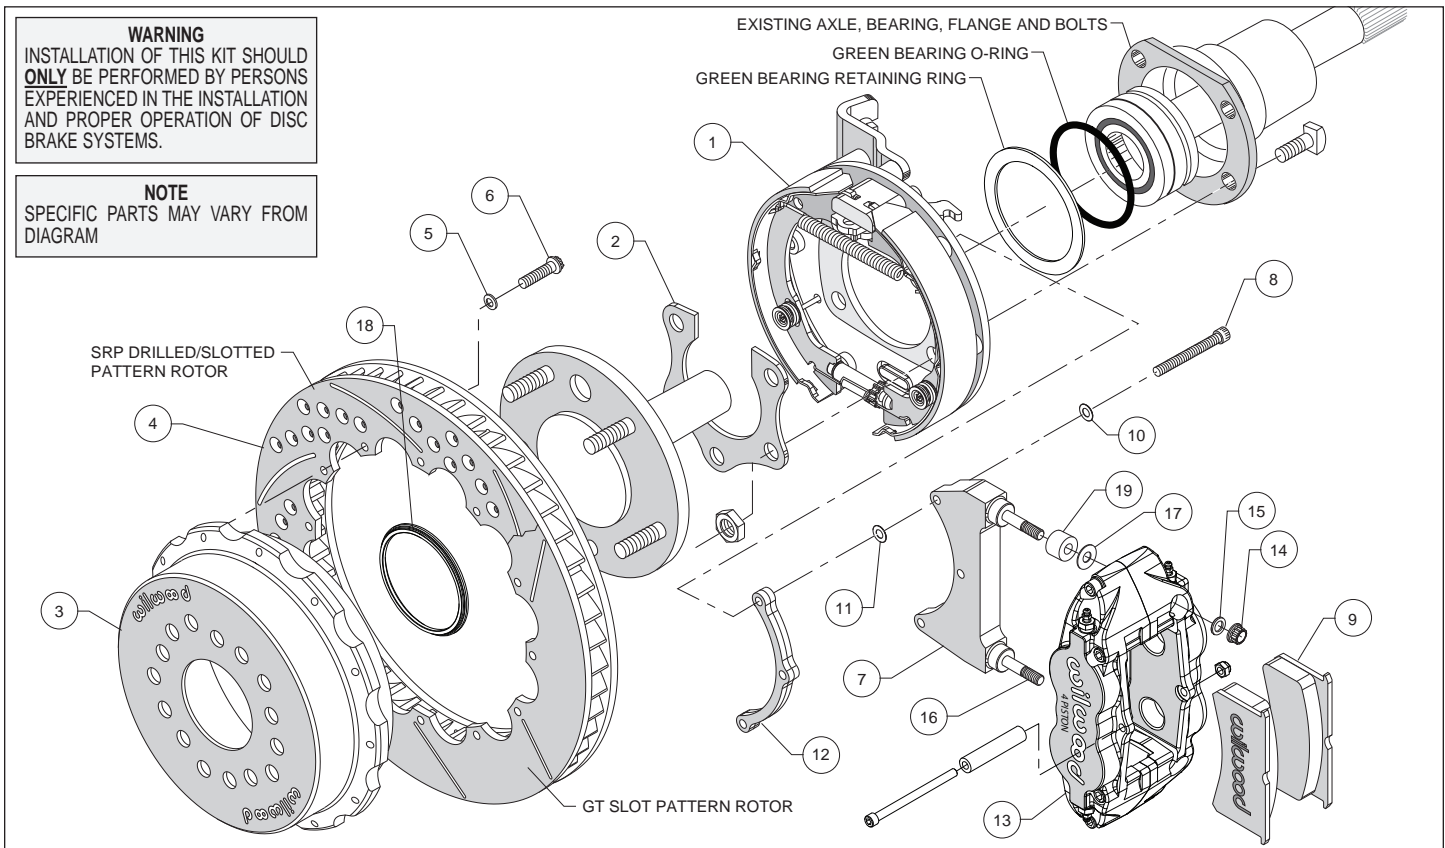
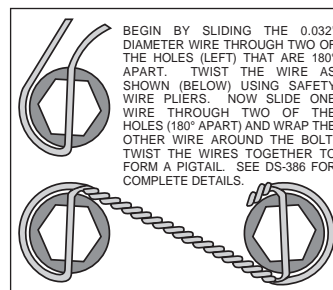

Figure 3. Typical Installation Configuration
Figure 7. Safety Wire Diagram
Assembly Instructions (numbers in parenthesis refer to the parts list, and Figure 3 on the preceding pages): **CAUTION:** All mounting bolts must fully engage insert nuts. Be sure to check that all bolts are either flush or protruding through flanged side of insert nut after shimming.
- Temporarily remove the retaining ring and o-ring from the bearing. Use care so as not to damage those components. Orient the bracket assembly (1) as shown in Figure 3 and Photo 1 and slide it onto the axle and past the bearing. Reinstall the retaining ring and o-ring onto the bearing, again using care. Insert the axle and bracket into the axle housing. Ensure that the bracket assembly backing plate fits flush against the axle housing flange. **NOTE:** The bearing retaining ring should be sandwiched between the axle housing flange and the new bracket assembly.
- Install the bearing retainer (2) with the opening pointing upward and the bearing relief step facing inward (toward the bearing), as shown in Figures 3 and 6, and Photo 2. Secure retainer and bracket assembly to the axle housing flange using the Original Equipment Manufacturer (OEM) bolts and nuts, Figure 3. Apply red *Loctite*® 271 to the OEM bolt threads and torque to OEM specifications.
- NOTE:** Please reference the caution statement at the beginning of the assembly instructions. The caliper mounting bracket (7) should initially be installed with clean, dry threads on the mounting bolts. Orient the bracket as shown in Figure 3, and install using bolts (8) and flat washers (10). Initially place one .015" shim washer (11) on each bolt between the bracket (7) and spacer (12), Figure 3. Temporarily tighten the mounting bolts. **NOTE:** End of bolt should not exceed inside face of insert. The bracket must tighten squarely against the back side of the bracket kit assembly (1). Inspect for interference from casting irregularities, machining ridges, burrs, etc. Later, after the caliper alignment has been checked, the mount bolts will be secured using red *Loctite*®.
- Orient the rotor (4) and the hat (3) as shown in Figure 3 and Photo 3. Attach rotor to hat using bolts (6) and washers (5). Using an alternating sequence, apply red *Loctite*® 271 to the threads, and torque bolts to 155 **in-lb**. For an added measure of security, the bolts may be safety wired using standard 0.032 inch diameter stainless steel safety wire as shown in Figure 7. Please refer to Wilwood's data sheet DS-386 (available at www.wilwood.com/Pdf/DataSheets/ds386.pdf) for complete safety wire installation instructions.
- Slide the rotor registration adapter (18) onto the axle register on the axle flange with the smaller O.D. facing toward the rotor/hat (4 and 3), Photo 4. Align the correct hole pattern in the hat with the stud pattern on the axle flange and slide into place, Figure 3 and Photo 5. **NOTE:** The rotor/hat must fit flush against the axle flange or excessive rotor run out may result. Install three lug nuts (finger tight) to keep the rotor/hat assembly in place while continuing with the installation. **NOTE:** Some OEM and after market axles come with stud sizes larger than 0.50" diameter. Verify stud size and have a qualified machine shop drill the bolt circle of the hat/rotor to the correct stud size, if necessary.
- Lubricate the caliper mounting studs (16) with lightweight oil. Initially place one .035" thick shim (17) and one spacer (19) on each stud as shown in Figure 3 and Photo 6. Mount the caliper (13) onto the bracket (7) using lock nuts (14) and washers (15), Figure 3. Temporarily tighten the lock nuts and view the rotor (4) through the top opening of the caliper. The rotor should be centered in the caliper, Photo 7. If not, adjust by adding or